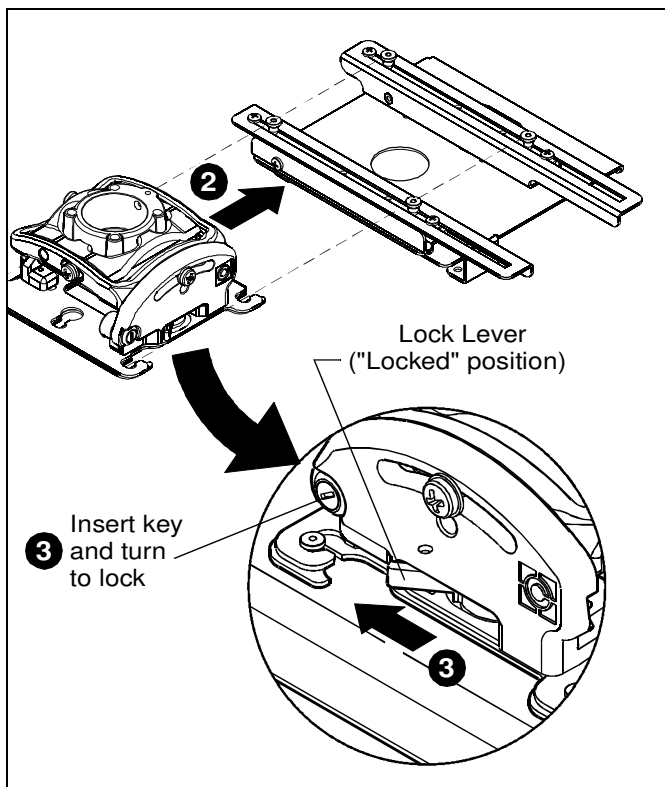

Figure 5
2. Slide RPMA onto LSB101 brackets (A and B). (See Figure 5)